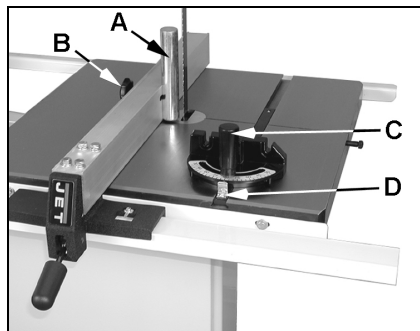

Fig 8
For resawing attach the post (A, Fig 8) to the fence with the lock knob (B). Position the post so that it is centered with the blade teeth.